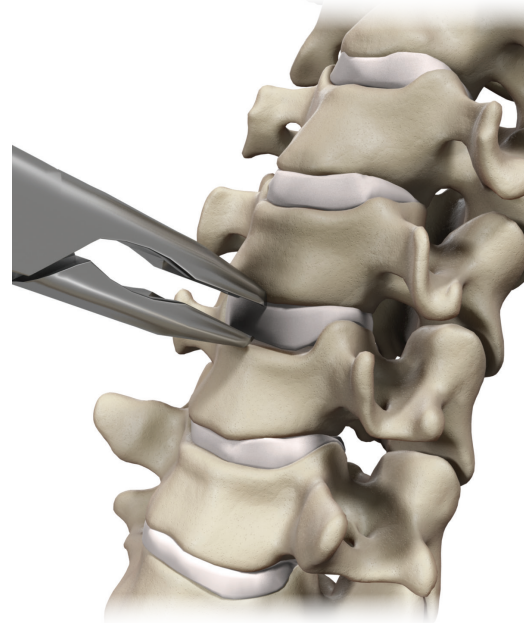

Figure 48
- Prepare the anatomy to accommodate placement of the structural allograft/autograft and the Optio-C plate. It is recommended to insert the Optio-C plate under distraction (Figure 48).